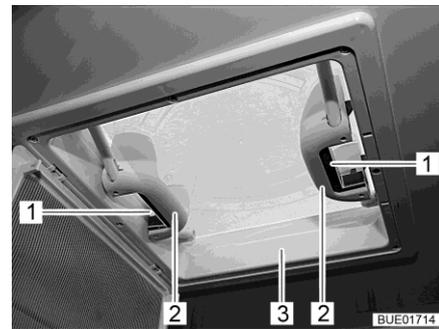

Fig. 28 Handles with snap latches
- Push the snap latch (Fig. 28,1) towards the inside of the skylight (Fig. 28,3). At the same time use the handle (Fig. 28,2) to press the skylight upwards.
- Using both handles (Fig. 28,2), pull down the skylight (Fig. 28,3) with force until the two snap latches (Fig. 28,1) lock into place.